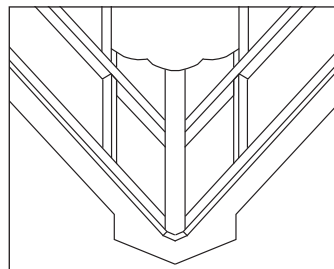

Fig. 3 – Use of support noggins
- 3 The width of the valley boards should extend by a minimum of 50mm beyond the edge of the valley trough. For overlaid boards on rafter spacings above 450mm, it is recommended that support noggins of 75 x 50mm are fixed under the outer edge of the valley board between the rafters (Fig. 3).